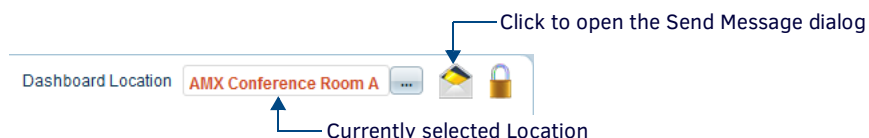

FIG. 75 Dashboard - Send Message
1. Click on the **Send Message** icon (FIG. 75): .
Click on the **Lock / Unlock** icon to unlock the Dashboard Layout and enable access to the Available Widgets window (FIG. 75):